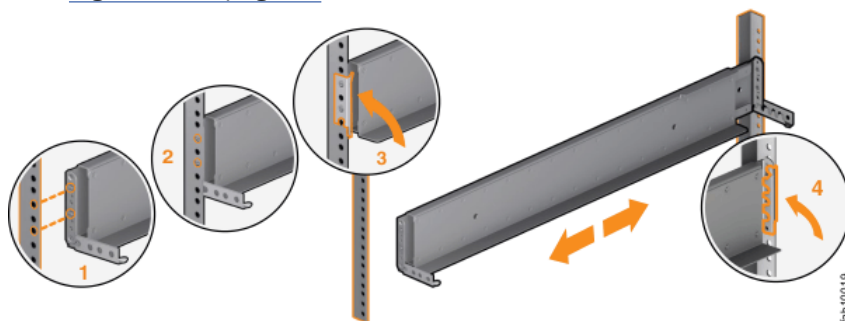

Figure 28. Closing the hinge brackets
- Close the rear hinge bracket to secure the rail to the rack cabinet flange. (See Figure 28 on page 66.)
- Close the front hinge bracket to secure the rail to the rack cabinet flange. See Figure 28 on page 66.